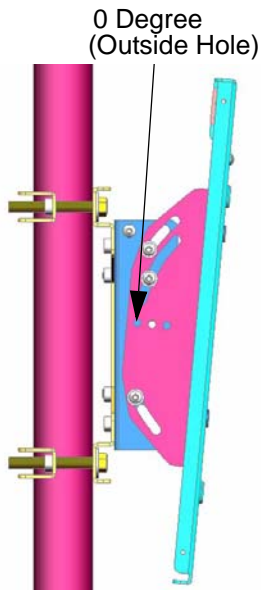
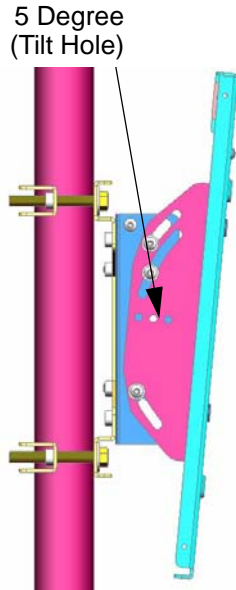
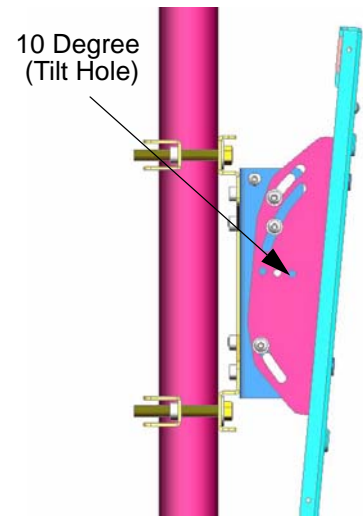

Figure 10. 0 Degree Tilt
Figure 11. 5 Degree Tilt
Figure 12. 10 Degree Tilt
2. Loosen tilt adjustment screws, adjust to desired tilt, and tighten tilt adjustment screws if necessary (see Figure 10, Figure 11, and Figure 12).